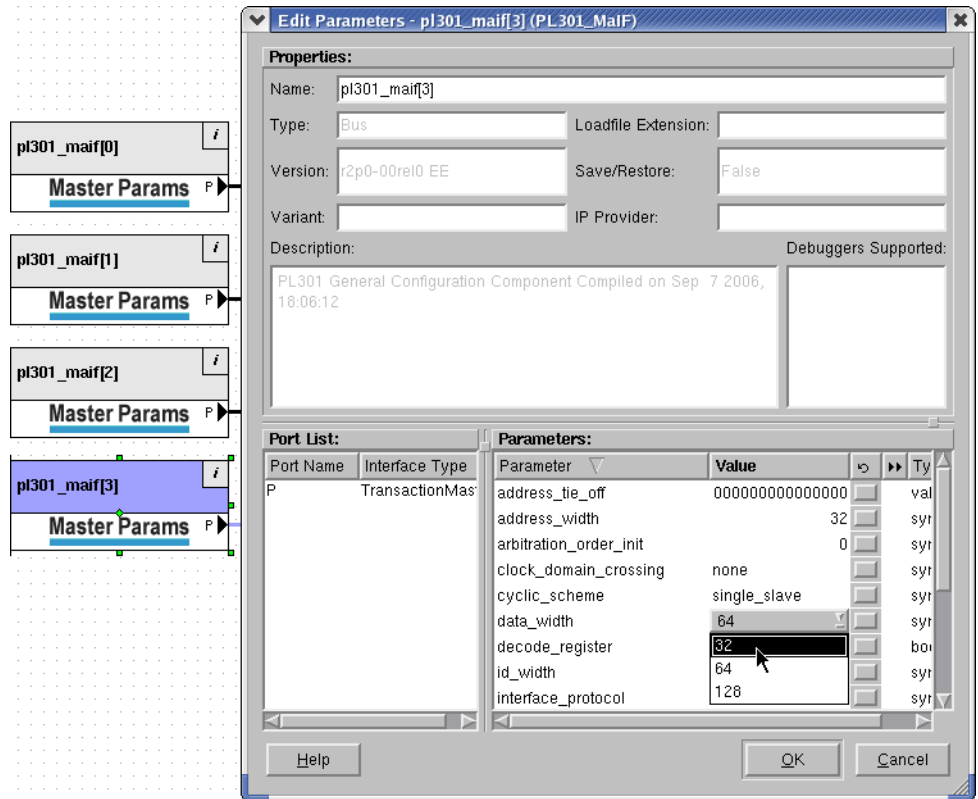

Figure 4-7 Configuring slave interface 3
2. Set the `data_width` parameter to 32, as Figure 4-7 on page 4-9 shows.